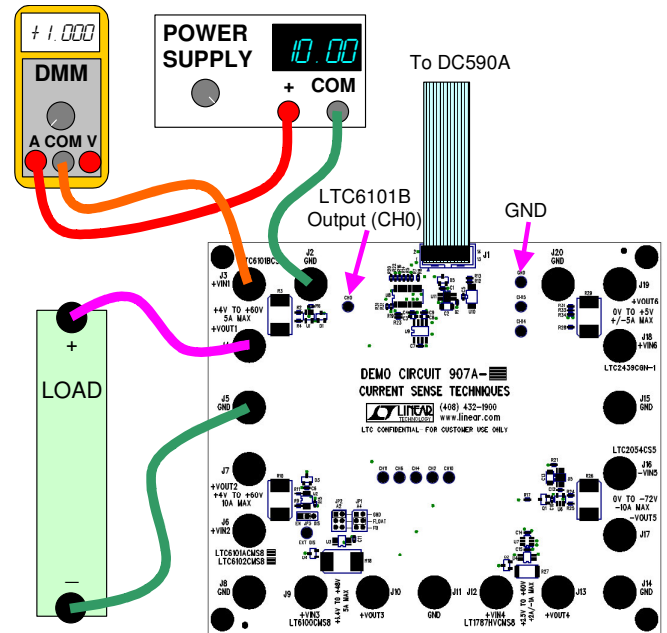

Figure 3. LTC6101B Power and Load Connections
1. Refer to Figure 3 for the following connections.
5. For time-domain measurements and/or stand-alone evaluation, the current-monitor output signal is available on the CHO turret as indicated in Figure 3.